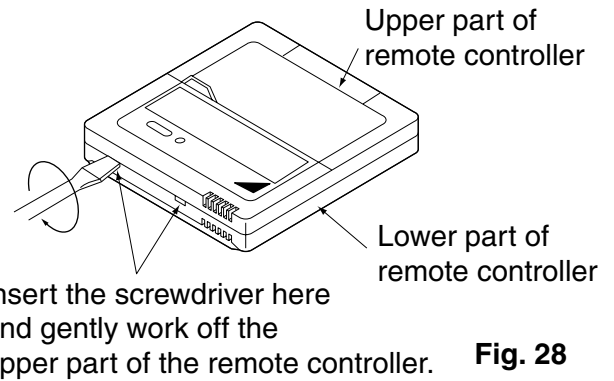

Fig. 28
- (1) Insert a ⊖ screwdriver into the recess between the upper and lower part of remote controller and, working from the 2 positions, pry off the upper part. The remote controller PC board is attached to the upper part of the remote controller. (Refer to Fig. 28)